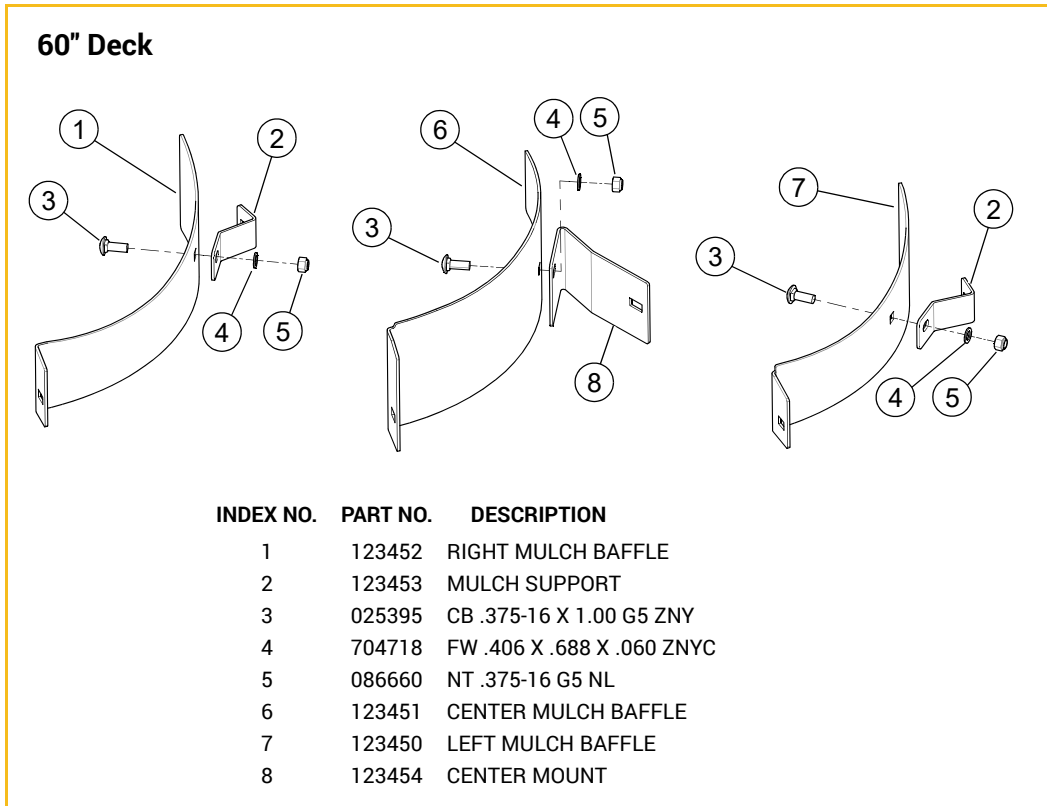

FIG. 2
5. **60" Decks:** Attach the mulch supports to both the right mulch baffle and the left mulch baffle using the provided hardware. Attach the center mount to the center mulch baffle using the provided hardware. (FIG. 2)